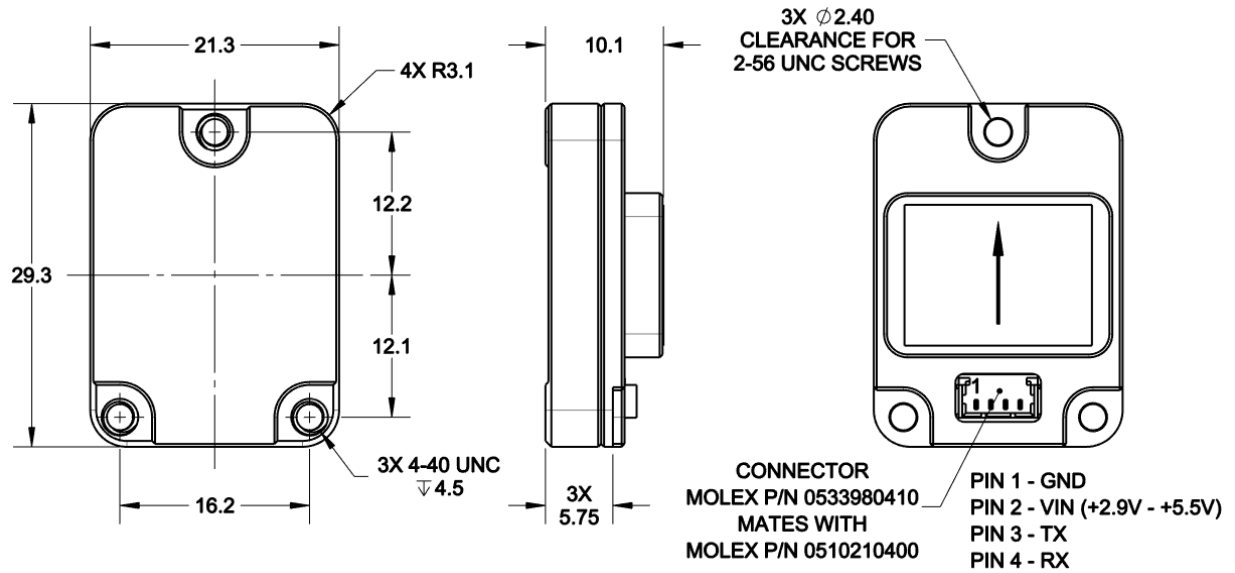

Figure 3-2: TargetPoint3 Mechanical Drawing
1. Pin #1 is the left most position of the connector as indicated on Figure 3-2